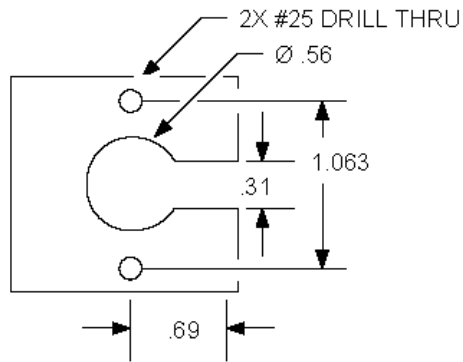

Figure 4: Recommended Mounting Plate Dimensions
1. Drill a 0.56 (9/16) inch hole in the middle of the plate, then drill two #25 holes 1.063 (1-1/16) inches apart on either side of the center hole. Cut a 0.31 (5/16) inch-wide slot in the mounting plate. See Figure 4. The plate should be a thickness of 1/8 inch or less.